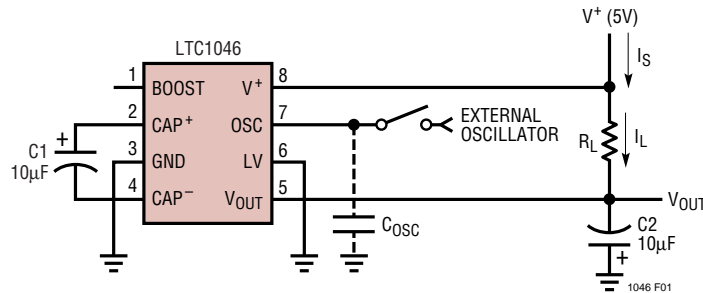

Figure 1
## TYPICAL PERFORMANCE CHARACTERISTICS (Using Test Circuit in Figure 1)
**TYPICAL PERFORMANCE CHARACTERISTICS** (Using Test Circuit in Figure 1)